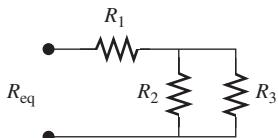

FIGURE P3.6 Circuit for Problem 3.6.
- 3.6 (A)*** Find R_2 in Figure P3.6, given $R_{\text{eq}} = 17 \Omega$, $R_1 = 5 \Omega$, $R_3 = 15 \Omega$.